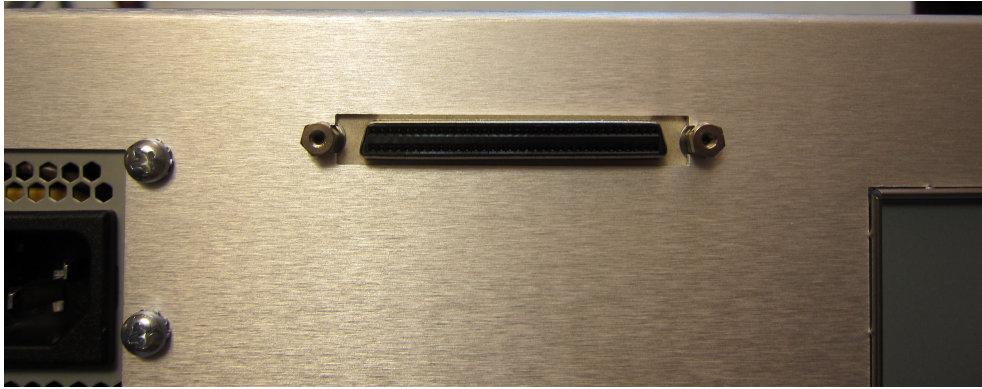

Figure 35: GPIO connector installed in the chassis.
1. Mount the bulkhead connector (60 04 068 5344) at the rear panel using 2 screw locks (60 01 000 9019) and two wave washers (99842A111). Refer to Figure 35 for proper connector orientation.